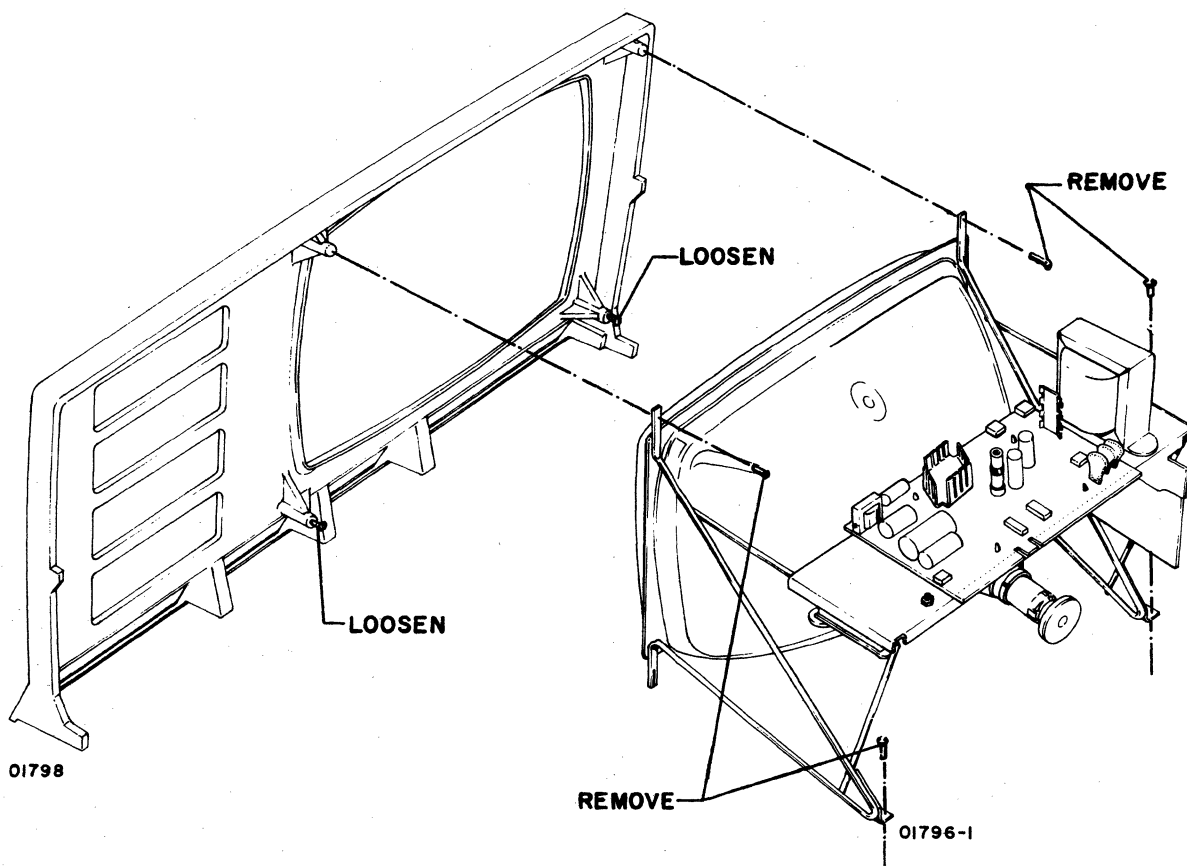

Figure CRT14. Video Module Mounting Screws Removal
- 6) Loosen (do not remove) the bottom two hex screws as shown in figure CRT14. (Slots in bottom of frame brackets allow them to be moved out without removing screws.) Remove the remaining four hex screws by using a 1/4-inch socket and extension. See figure CRT14 for the locations of the four hex screws.